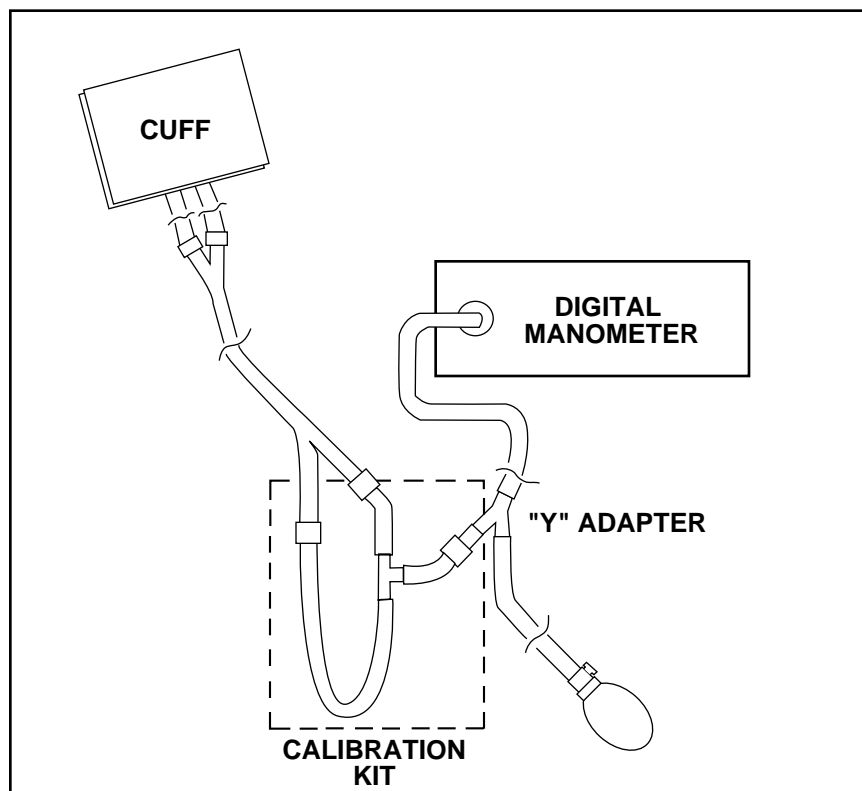

Figure 6-7. Cuff and Hose Leak Check Setup
2. Connect a digital single-tube manometer with the parts supplied in the blood pressure calibration kit as shown in Figure 6-7.